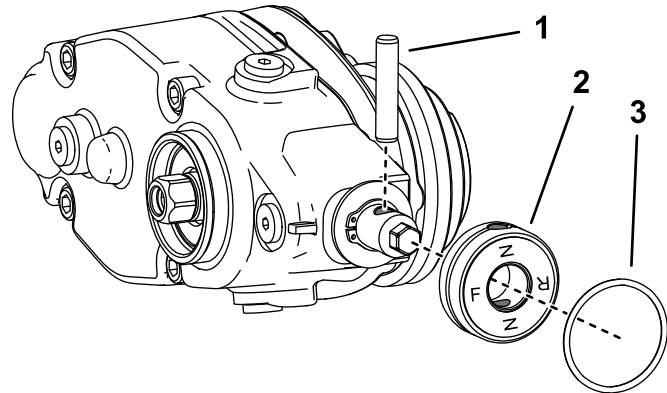

Figure 15
3. If you are installing the groomer at the left side of the machine, perform the following (Figure 15):